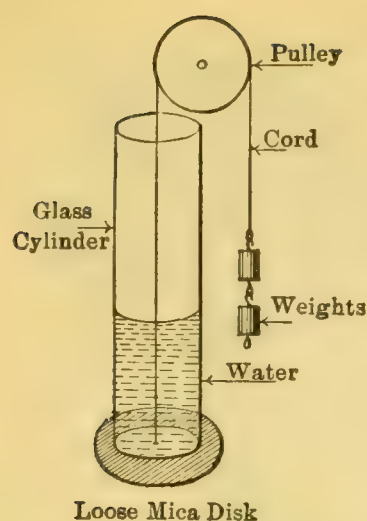

FIGURE 43.—The greater the depth of water, the more weights must be added to hold a disk against the bottom.
33. Factors Determining Gravity Pressure. — A cubic foot of water weighs 62.5 pounds, no matter what the shape of the vessel in which it is weighed. The pull of gravity on all the particles results in the downward force on the bottom of the containing vessel. If a cubic foot of water is poured into a narrow cylinder (Figure 43), such as a vertical pipe, the pressure per square inch on the bottom will be greater than if the water is put in a shallow pan.